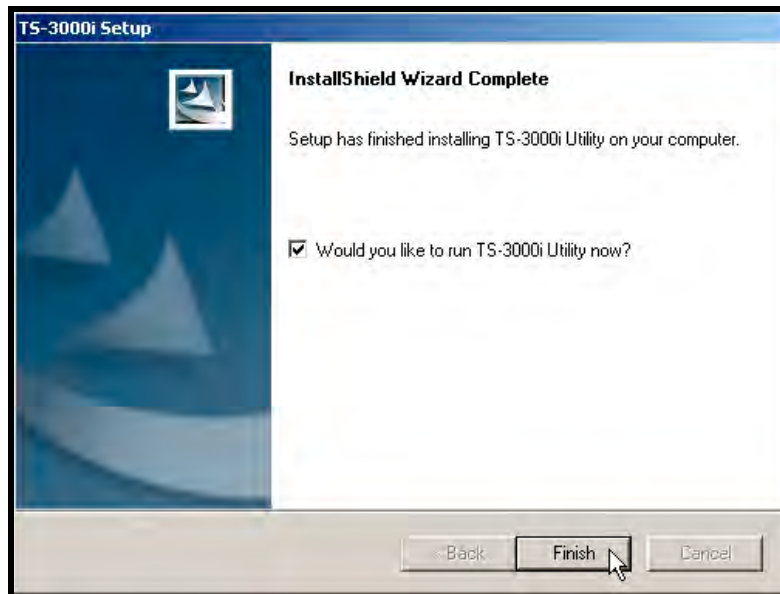

Figure 5-3: Finish Install of TS-3000i Utility
Step 3. When the “*InstallShield Wizard Complete*” screen appears, click on the **Finish** button to end installation and launch the utility, if checked (see *Figure 5-3*).